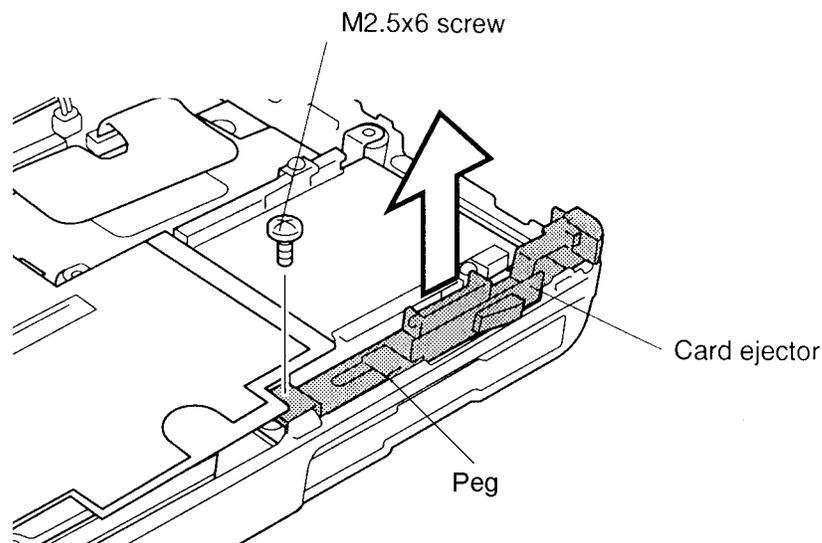

Figure 4-12 Removing the right side PCMCIA card ejector
To remove the T2400CS/T2400CT's RTC battery and upper system board, follow the steps below and refer to figures 4-12 and 4-13.
3. Remove the one M2.5x6 screw to remove the right side PCMCIA card ejector (figure 4-12). Note the peg on the card ejector which fits into a metal loop on the release device below the card ejector.
To install the T2400CS/T2400CT's RTC battery•Upper System board, follow the steps below and refer to figures 4-12 and 4-13.
4. Secure the right side PCMCIA card ejector with the one M2.5x6 screw (figure 4-12).